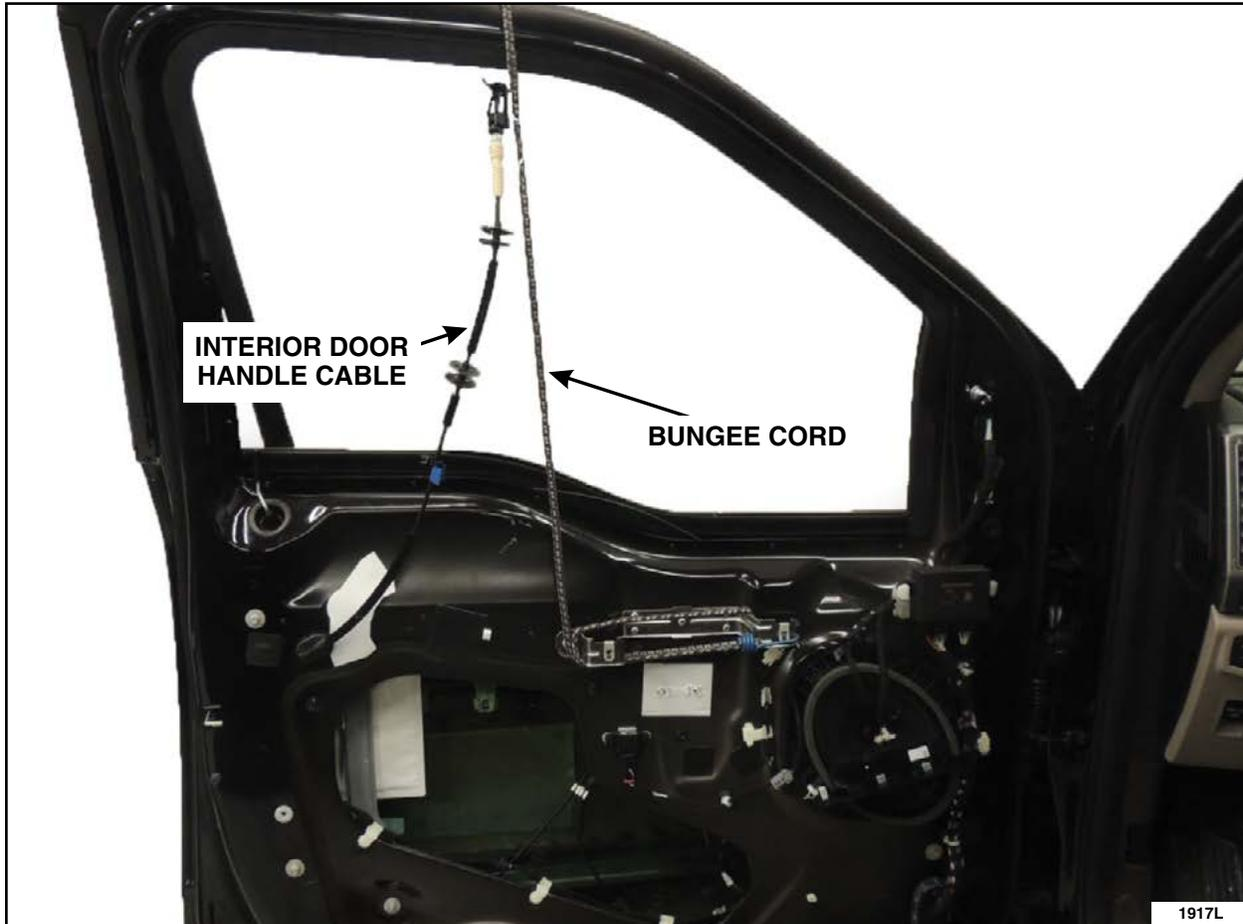

FIGURE 20
24. Using a bungee cord or other suitable device, secure the interior door handle release cable to the door in an upright position to allow the lubricant time to run down into the cable until the interior door handle release cable is reinstalled later in this procedure. See Figure 20.